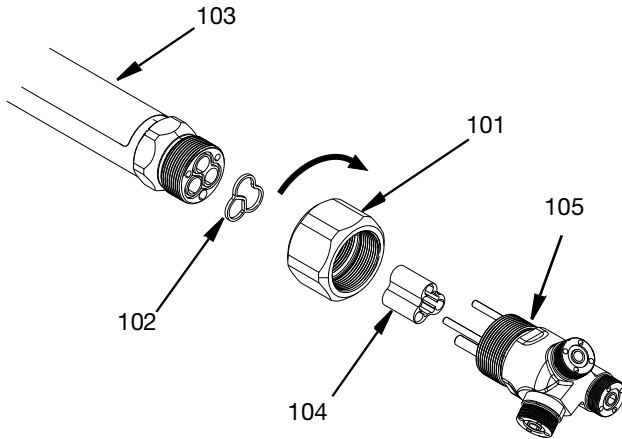

FIG. 29
4. Insert the dowel pins of the 3 head adapter assembly (105) into the long tube assembly (103). Turn the turnbuckle nut clockwise as seen facing the swivel housing so that the threads of the long tube assembly (103) and the 3 head adapter assembly (105) engage at the same time. Torque the nut to 75 ft-lb (101.69 N•m). See FIG. 29.